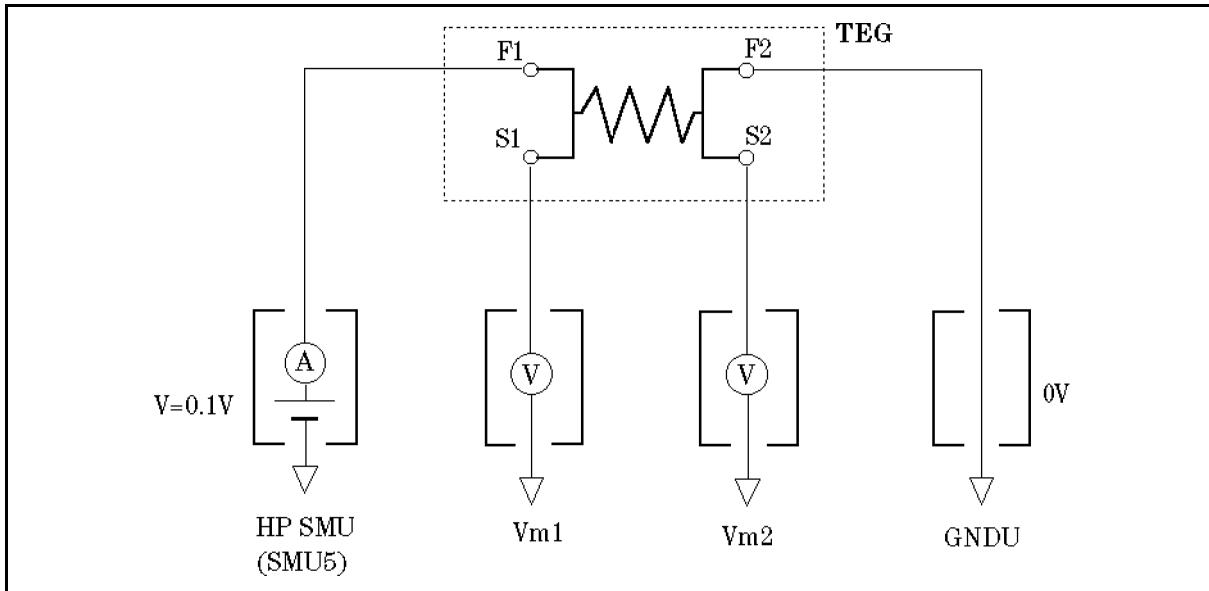

Figure 3-1. Rinit Measurement Circuit
First, R_{init} is measured while 0.1 V is applied to the test structure. Applied voltage value (0.1 V) is assumed to be low enough not to cause Joule heating. R_{init} measurement circuit is shown in Figure 3-1.
1. Connect HP 4155A/4156A to your test device. Refer to Figure 3-1.